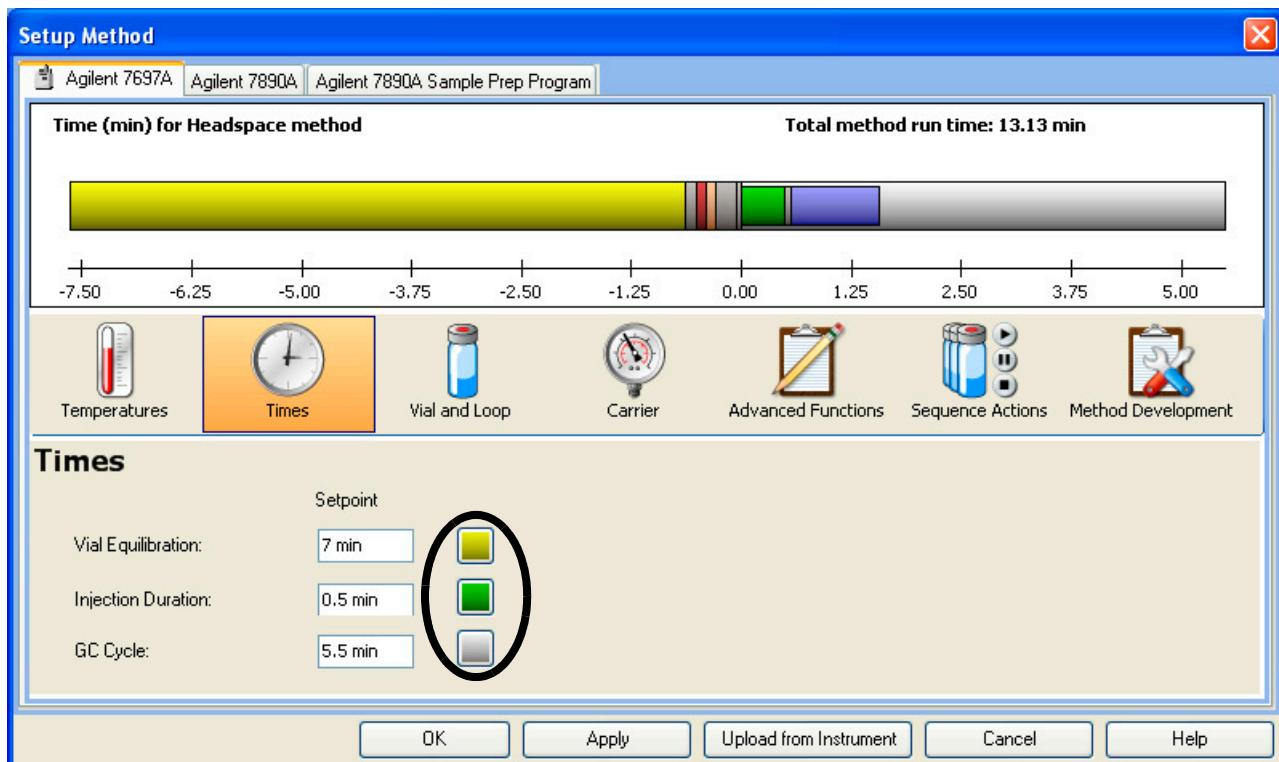

Figure 15 Setting the time parameters
- 4 Select the **Times** icon and set the parameters shown in Figure 15.